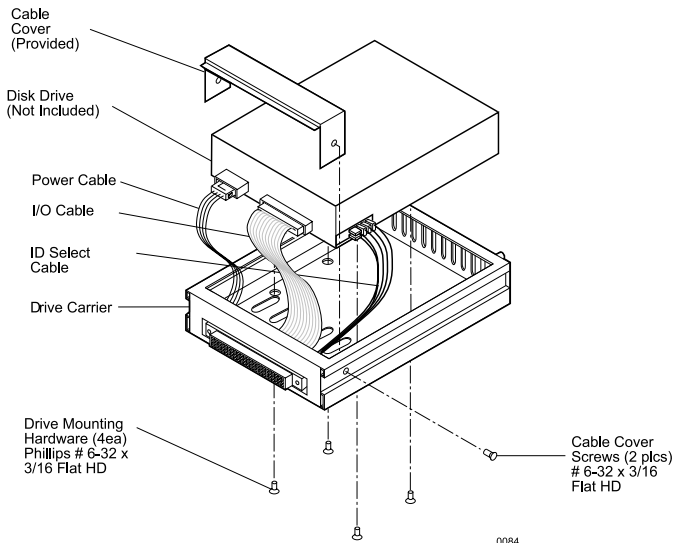

Figure 6: Drive Installation Assembly
1. Attach the I/O cable from the rear distribution board of the DE100i-S carrier to the disk drive (Figure 6).
2. Attach the 4-pin DC power cable from the rear distribution board to the disk drive (Figure 6).
4. Carefully insert the drive into the carrier at an angle, cable-end first. **Make sure none of the cables are pinched.** Lower the front of the drive carefully into place. Fasten the drive into the carrier with four (4) of the eight (8) screws provided as shown in Figure 6.
5. Attach the provided cable cover with two (2) #6-32 Phillips F.H. screws as shown in Figure 6.